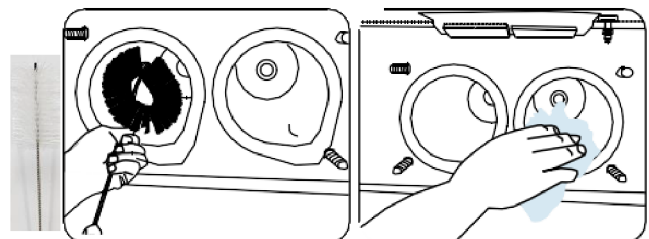

Figure 5-35
2. Brush out the inside of the freezing cylinder and wipe it with a soft cloth. (Figure 5-35.)